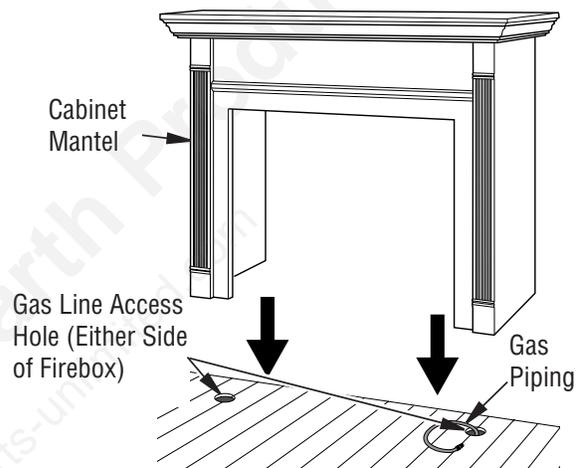

Figure 11 - Installing Cabinet Mantel (Mantel May Vary From Illustration)
2. Install gas piping to firebox location. See Gas Line Installation on page 13. You may have to cut an access hole in the floor or wall to run gas line to firebox. Make sure to locate access hole so cabinet mantel will cover it when installed (see Figure 11).